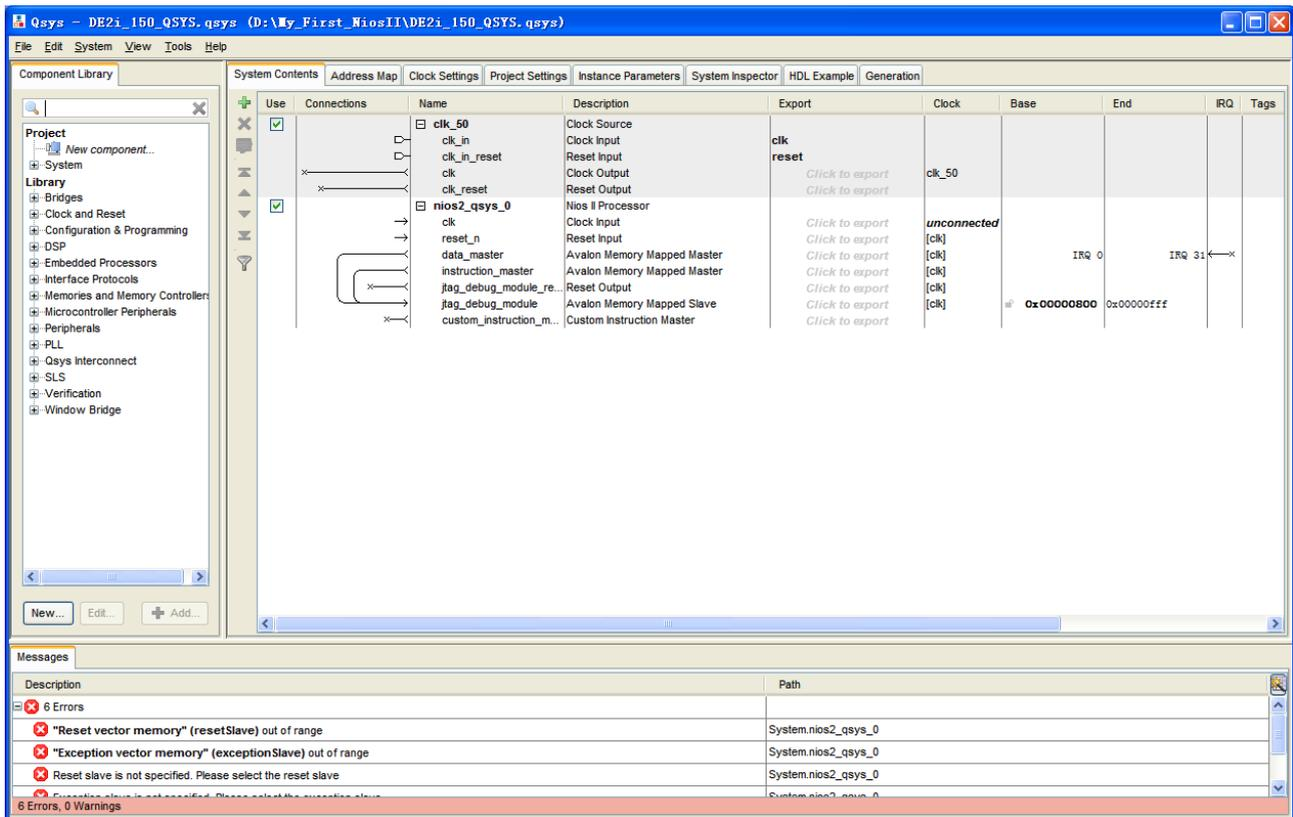

Figure 1-17 Add Nios II CPU completely
10. Click **Finish** to return to main window as shown in Figure 1-17.